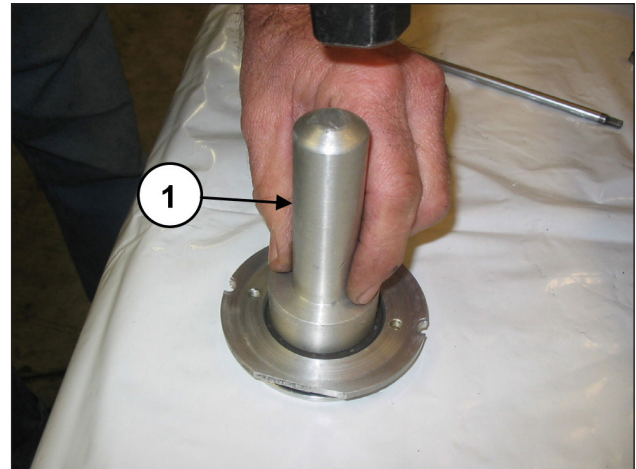

Fig. 157
Install the oil seal in the oil seal cover (pos. ①, Fig. 157) using a buffer code 27910900.